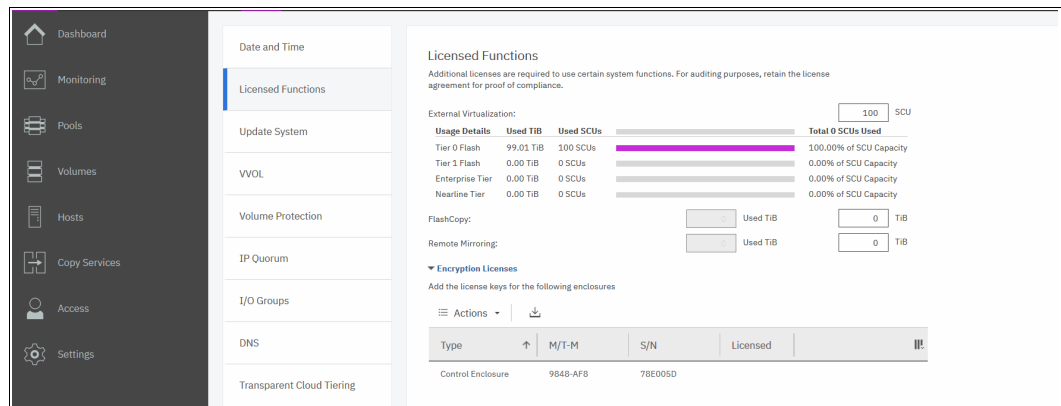

Figure 4-90 Licensing window
2. In the left column, click **Licensed Functions**. The example in Figure 4-90 shows the License Functions window of an IBM FlashSystem 9100 system, which uses differential licensing for External Virtualization.